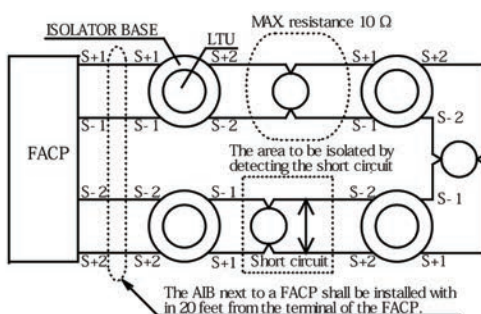

Figure 4: Style 7 SLC Wiring using AIB Base
3. Typical Style 7 arrangement is shown Figure 4. Style 7 is required to use Potter-Nohmi's AIBs or SCIs (Short Circuit Isolator modules). Resistance of wiring connected to the AIB must not exceed 10 ohms. The AIB next to a FACP shall be installed with in 20 feet from the terminal of the FACP.